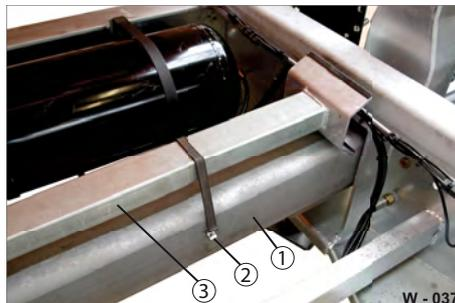

Fig. 37 Service support in drive position
- ▶ Release the tension lock (Fig. 37/2).